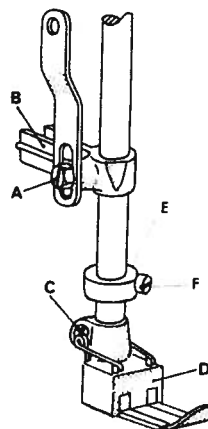

fig. 9
7. Mounting and positioning the presserfoot (fig. 9):